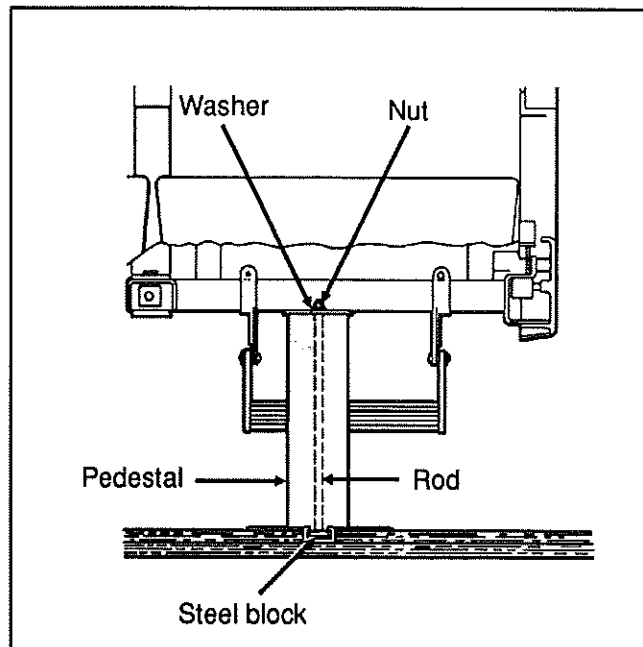

Fig. 21
5. Remove 2 nuts and washers holding seat frame to pedestal rods. See figure 21.